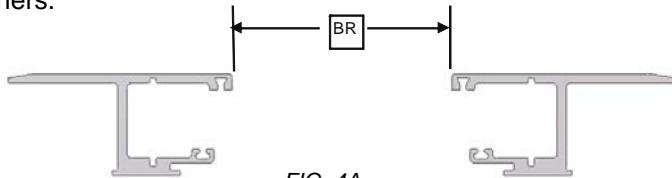

FIG. 4A
Finally, check for proper spacing by measuring between the rails at the canister and the tailgate end of the rails (Fig 4A). The measurements should be equal to or less than those in Fig 4B. The Rail Brackets and Shims have been pre-installed to achieve the proper Between the Rail dimension (BR) when placed on an average factory truck bed. However, not all truck beds are average dimensionally and some have optional plastic caps or over the rail spray-in liners.